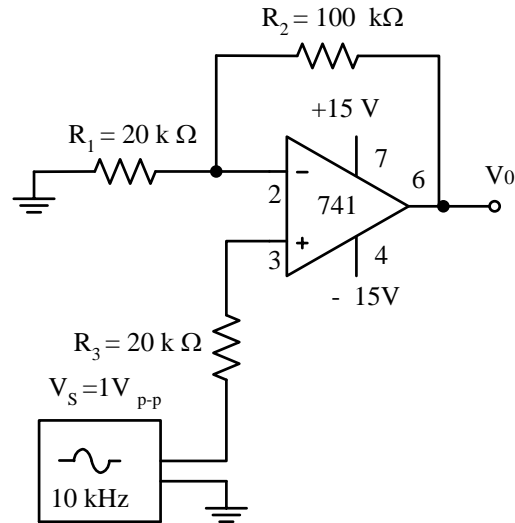
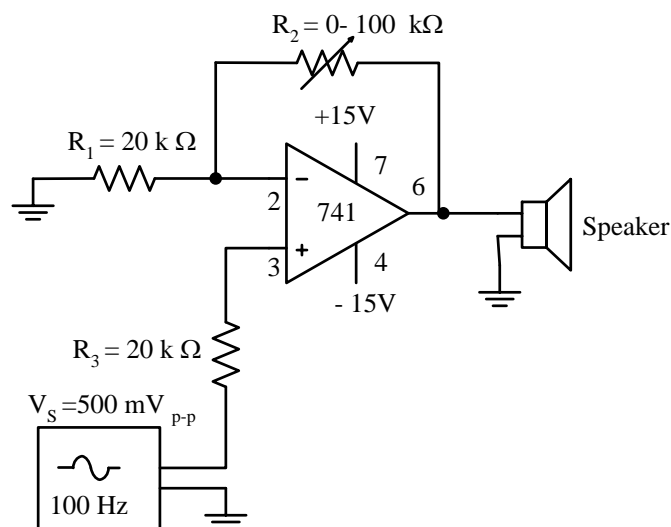

Figure 2
Figure 3
1. Determine the gain of the circuit in Figure 2.
2. Connect the circuit in Figure 2.
7. Modify the circuit in Figure 2 as in Figure 3. Use 20kΩ as R_1 and 100 kΩ potentiometer as R_2 and a speaker as the output